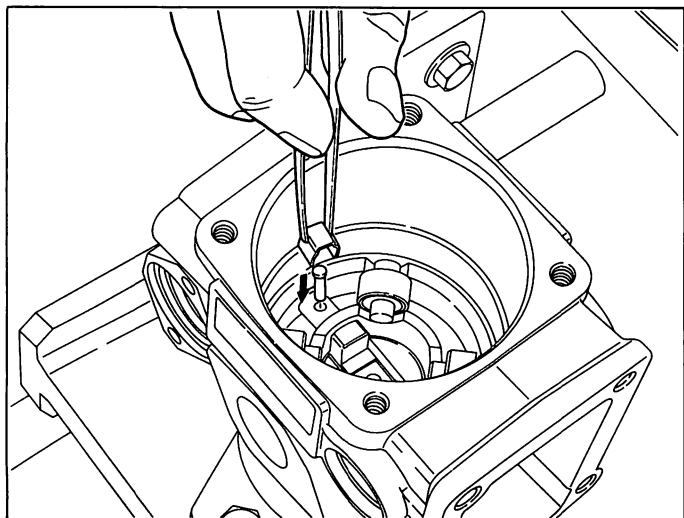

Fig. 51 Connecting the timer
3. To connect the timer, push the previously inserted roller holder pin (24) into the slider (32) in the timer piston and fix it with the pin (25). Then, fit the clip (26) onto the pin (25). Check that the timer piston slides smoothly. (Figs. 51 and 52). Always use a new clip.